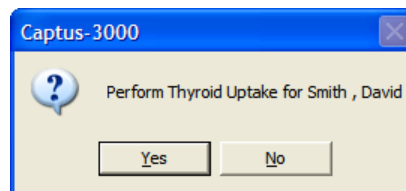

Figure 7-20
2. Click the **Start Procedure** button or press *Alt+S*. Figure 7-20 will appear confirming the selected patient. To cancel the uptake or if the incorrect patient was selected, click the **No** button to return to Figure 7-10, otherwise click **Yes** to continue.